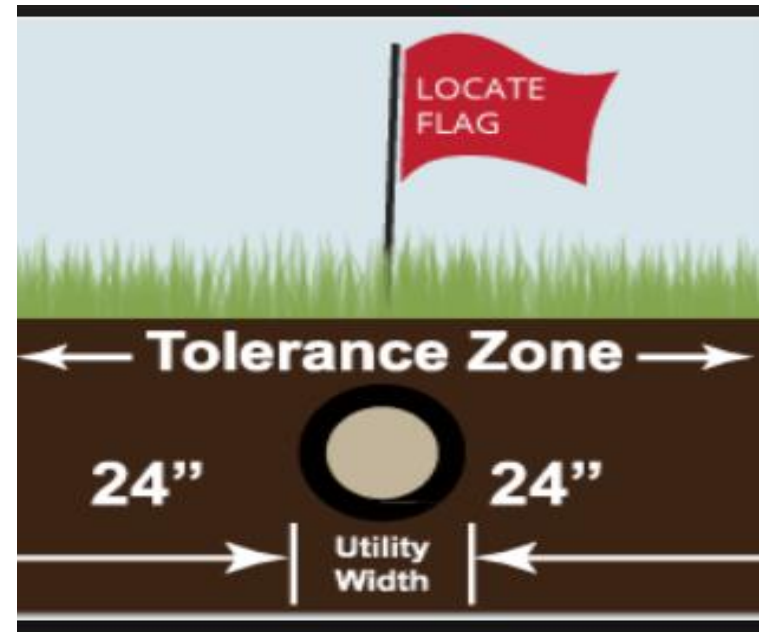

Figure 1 Shovel
- Keep face of shovel toward side of facility fig.1